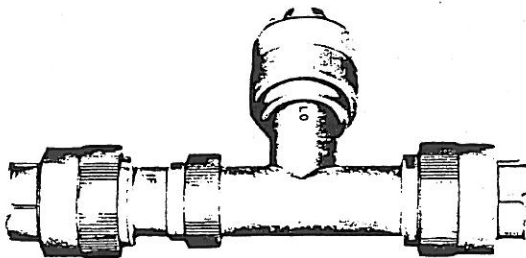
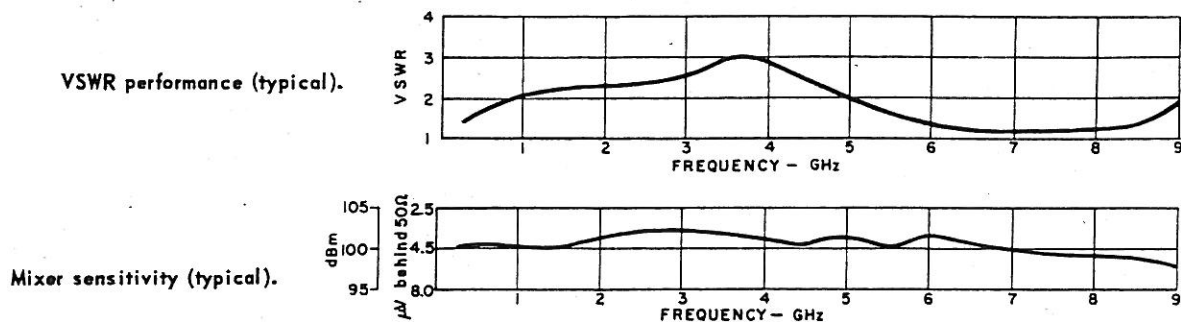

Figure 3-9. Type 874-MRAL Mixer.
Figure 3-11. Graphs of VSWR performance and sensitivity for the GR 874-MRAL Mixer when used with GR 1236 in narrow-band operation.
**Description.** The GR 874-MRAL Mixer, see Figures 3-9 and 3-10, consists of a short section of coaxial line terminated with a mixer diode. The local-oscillator input is coupled to the diode through a 50-Ω resistor via a third coaxial arm. The low-frequency end of the diode is bypassed to ground by a 7-pF capacitor and is routed to the (I-F) output connector through a small inductor. Locking GR874 connectors are used at all three arms to provide optimum shielding and to keep leakage at a minimum. Typical VSWR performance and sensitivity of the GR 874-MRAL, with the 1236 operating in the NARROW band, are shown in Figure 3-11.